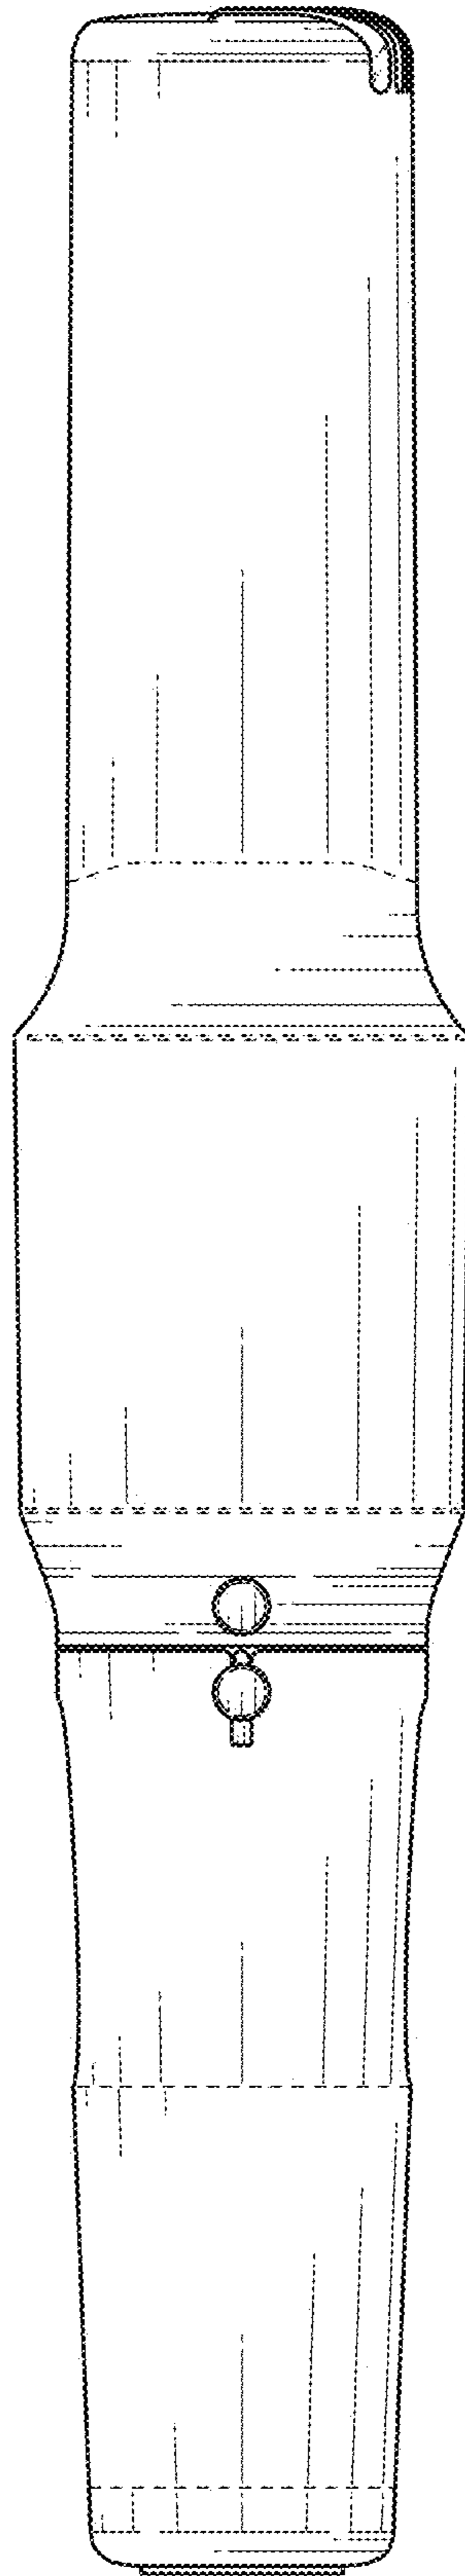

FIG. 5
- FIG. 5 is a left side elevation view thereof;